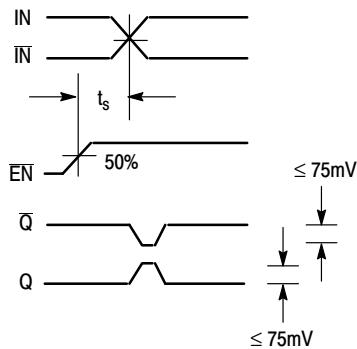

Figure 3. Setup Time
5. The setup time is the minimum time that EN must be asserted prior to the next transition of IN/ \bar{IN} to prevent an output response greater than $\pm 75\text{ mV}$ to that IN/ \bar{IN} transition (Figure 3).
- The setup time is the minimum time that \overline{EN} must be asserted prior to the next transition of IN/\overline{IN} to prevent an output response greater than $\pm 75\text{ mV}$ to that IN/\overline{IN} transition (Figure 3).